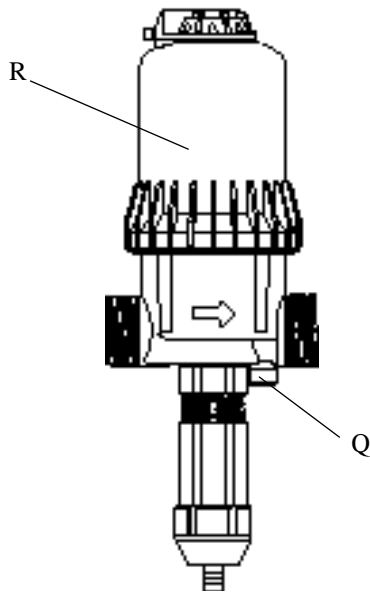

Fig. 18
- This automatically recreates normal atmospheric pressure in the Proportional Injector in the event of an accidental vacuum in the line (**Fig. 18 - Q**).
- Unscrew the bell housing by hand (**Fig. 18 - Rep. R**), and remove it.